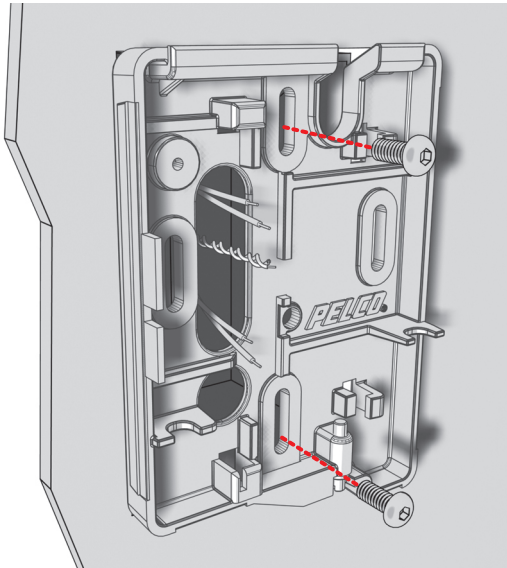

Figure 1. Mounting the Adapter Plate
2. Thread the 24 VAC power, video (coax or UTP), and control wiring through the large access hole in the adapter plate. Then attach the adapter plate to the mounting surface using either the top/bottom or left/right pair of mounting holes. (The top/bottom pair is shown in Figure 1.)